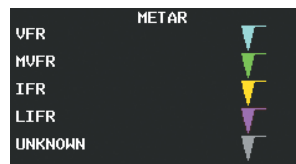

Figure 6-27 METAR Legend
To display the METAR legend on the Weather Data Link (XM) Page (Figure 6-27), select the **LEGEND** Softkey when METARs are selected for display.